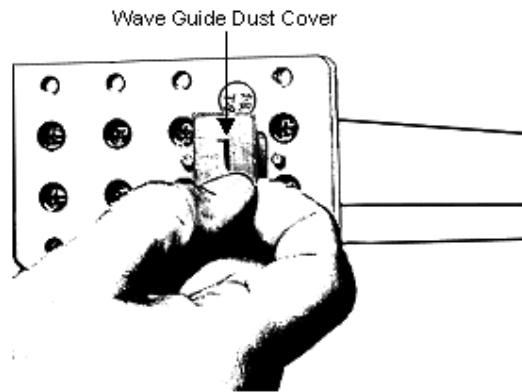

Figure 4-4: Removing the Plastic Wave Guide
3. Remove the plastic wave-guide dust cover from the back surface of the antenna as shown in Figure 4-4.